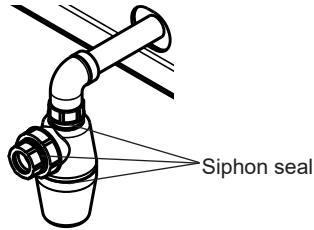

Fig. 55
15. Maintaining siphon (Fig. 55):
18. Fill the siphon (Fig. 55) and neutralisation unit, if present, with water through the cleaning opening.